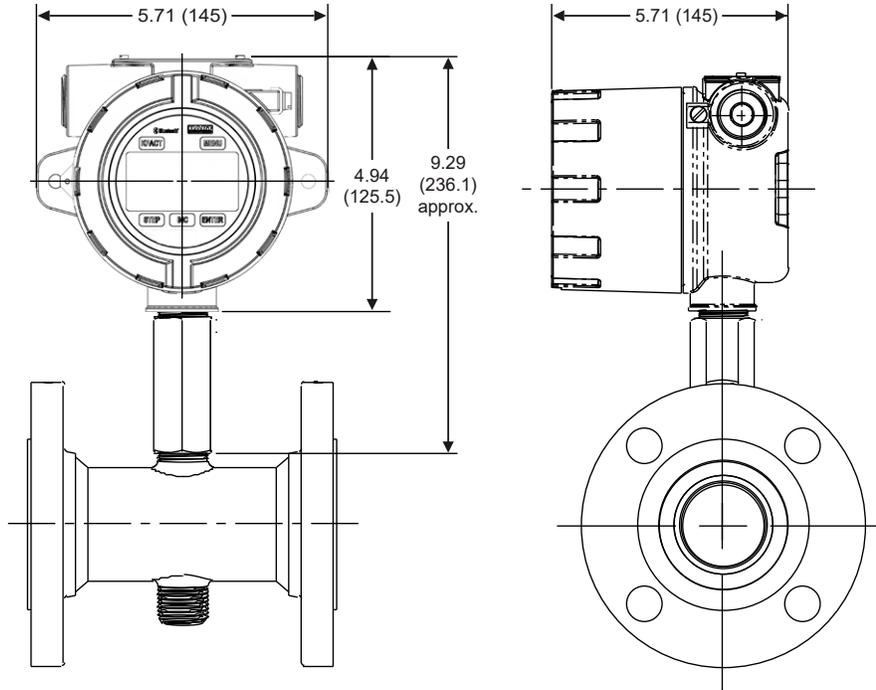

Figure 2.3—Direct mount to a BARTON 7000 series flowmeter with 3/4-in. to 3/4-in. standoff tube (ATEX)
- Mount the device to a BARTON 7000 Series turbine meter. A 3/4-in. to 3/4-in. stainless steel standoff tube is required (Figure 2.3, page 36). (The 3/4-in. to 1-in. reducer supplied with the BARTON 7000 Series meter is not required when the standoff tube is used.)